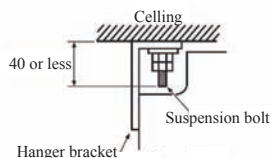

Fig.4
* Adjust the distance from the unit to the ceiling slab beforehand. (Refer to Fig.4)